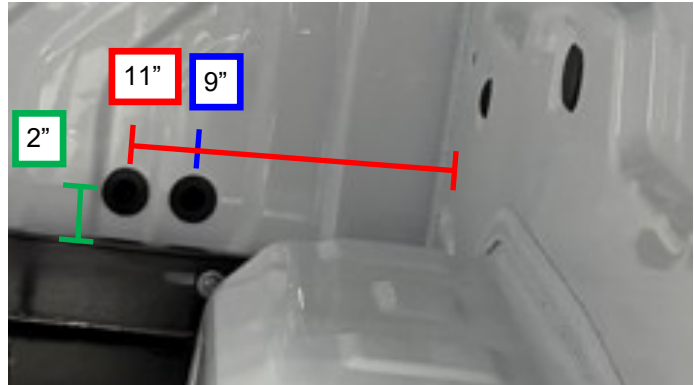

Figure 3.1
At the front most, passenger side corner of the bed. Locate the (2) drill spots for the grommets you will need to make. The inner most grommet will be 11" from the outside wall of the bed to the middle of the grommet. The outer most grommet will be 9" from the outside wall of the bed to the middle of the grommet. Ensure the grommets are also up at least 2" from the top of the bracket for the slide out. Using a Step Bit or a hole saw drill the two holes. Figure 3.1